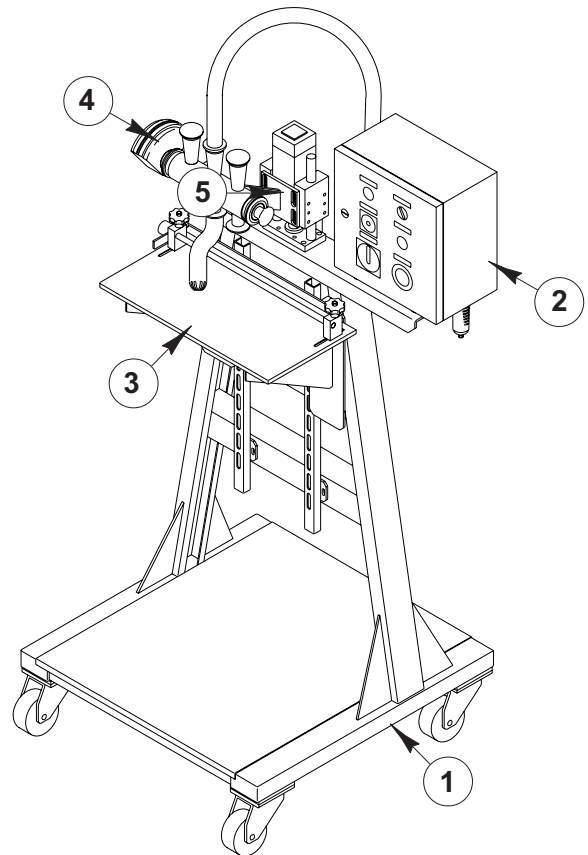

Fig. 3.1
- Steel support structure (Position 1 – Figure 3.1)
- Control panel (Position 2 – Figure 3.1)
- Shelf with regulatable height for the tubs' support (Position 3 – Figure 3.1)
- Rolling doser (Position 4 – Figure 3.1) activated by a pneumatic actuator (Position 6 – Figure 3.1)
- Pneumatic slide (Position 5 – Figure 3.1) for the doser's raising and descending